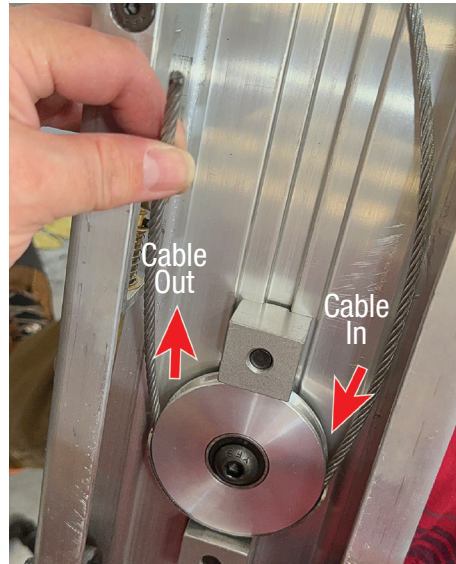

Figure 4-7: Loading Cable to Fork Carriage Pulley
14. Take the cut end of the replacement cable and feed it into and around the pulley of the fork carriage. Make sure you start the cable feed on the right side of the pulley (as viewed from the back of the fork carriage, see Figure 4-7). The cable will exit the pulley on the left side. This will ensure that the cable, from the anchor point to the fork carriage, remains on the left side of the front mast.